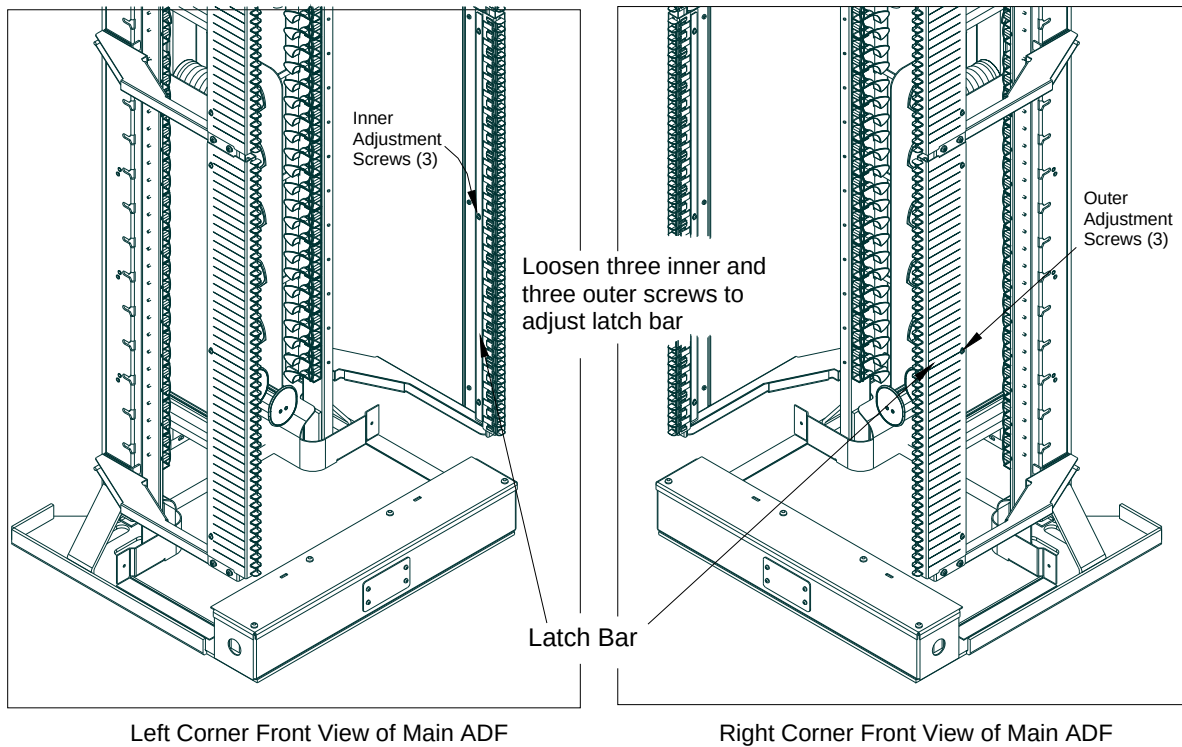

Figure 37 - Adjusting Latch Bars (ADF Module Not Shown)
- Loosen the six adjustment screws that hold that latch bar — there are four latch bars, one per quadrant per Main ADF — to the frame extender. See Figure 37, following.